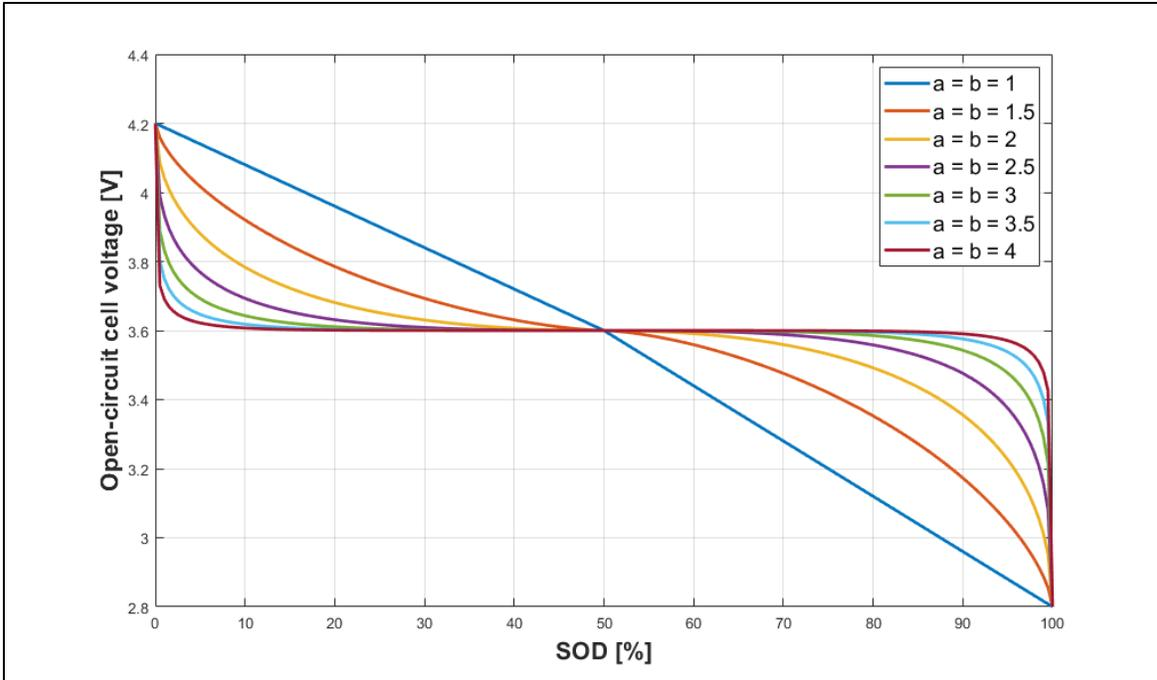

Figure 6: Battery Discharge Curve for Different Fitting Coefficients
- If needed, the curve fit parameters “a” and “b” can be independently modified to change the shape of the battery discharge, as shown in Figure 6.